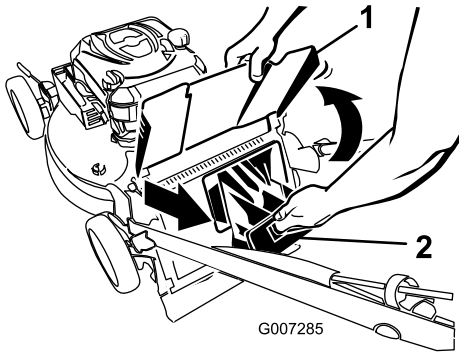

Figure 32
1. Raise and hold up the discharge deflector (Figure 32).
2. Pull out the rear-discharge plug (Figure 32).